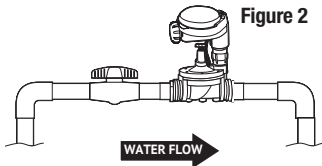

Figure 2
2. Install a 3/4" ball or gate valve onto the PVC pipe or to the valve manifold before installing the timer (Figure 2 and 3). This valve can be very useful as an emergency backup to turn the system off. This type of arrangement is used by professional installers.